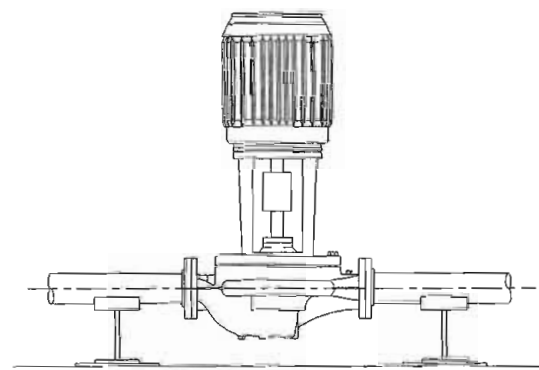

Fig. 2.3 Floor Saddle Support
- 2.3. Floor mounted saddle supports. (Fig. 2.3) Typical for condenser water pumps where cooling tower base is at mechanical room elevation.